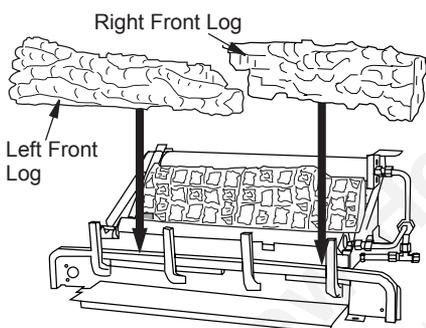

Figure 40 - Installing Left/Right Front Logs
3. Place front left (18" D-064, 24" D-057 & 30" D-038) and front right (18" D-065, 24" D-058 & 30" D-039) logs as shown in Figure 40.